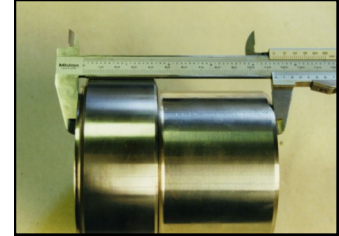

Fig 4.
- Step 3.** Add 0.5mm or 1/4 of a turn anti-clockwise to the distance measured in step 2. Set the spacer to this length see Fig 4.